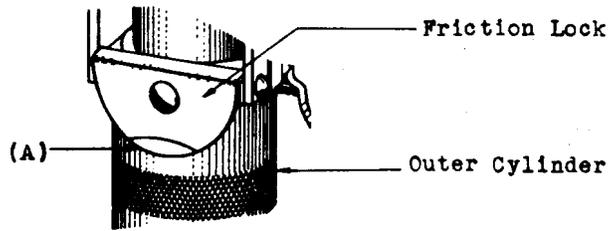

Fig. 6 - Cylinder Locking Arrangement Externally Adjusted Dashpot Relay
**2.12 Tightness of Friction Lock - Fig. 6(A) - (Externally Adjusted):** The friction lock shall hold the outer cylinder firmly in place. Gauge by feel.